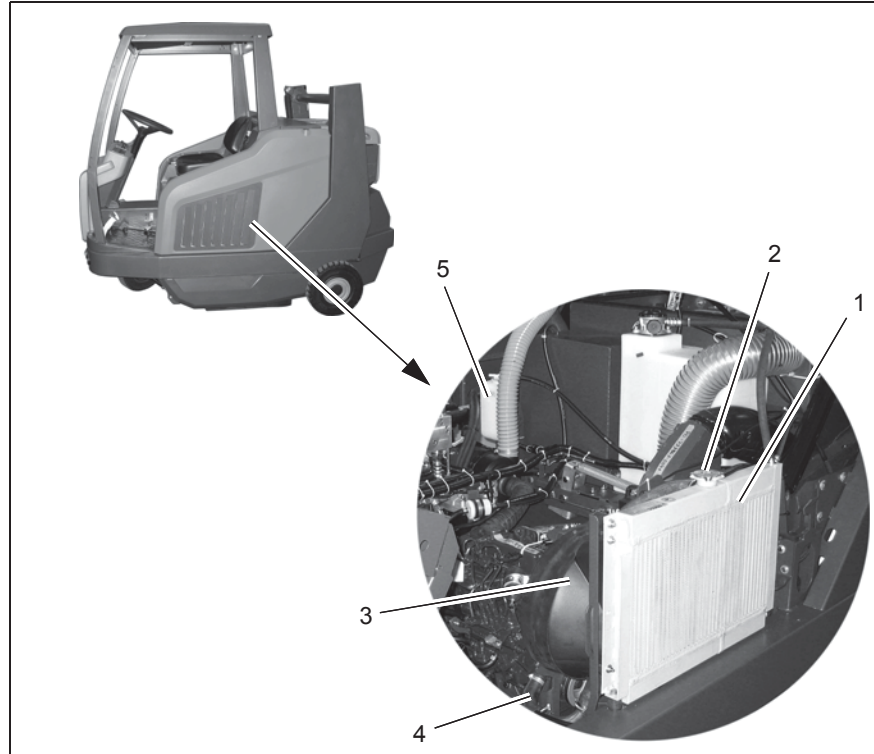

Fig.26
The combined radiator (Fig. 26/1) cools both the cooling water for the engine as well as the hydraulic oil for the work hydraulics. The coolant is cooled in the radiator by means of a fan (Fig. 26/2). If the coolant temperature is too high, it is indicated in the operating panel.
Check the radiator (Fig. 26/1) daily and clean as necessary. Dirt on the radiator ribs reduces the cooling capacity.
1. When the engine has cooled down, open the cap (Fig. 26/2) carefully.
Only refill coolant in the radiator. Do not refill at the resuction tank (Fig. 26/5)!
1. Place a suitable collecting vessel under the radiator draining hose (Fig. 26/4).